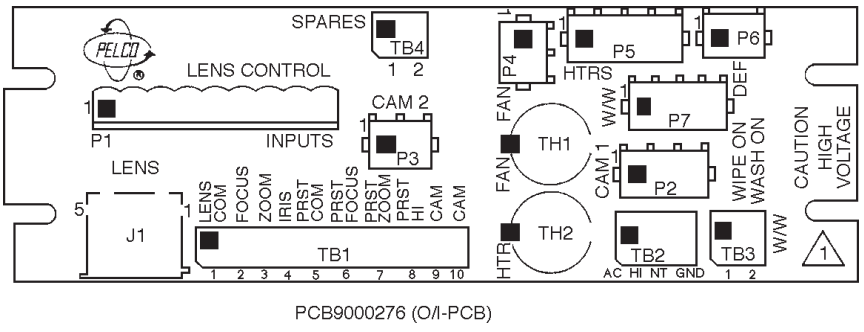

Figure 8. Component Locations for Optional Circuit Board (O/I-PCB)
- If your enclosure has the O/I-PCB circuit board, connect the wire to the LENS COM connector (refer to Figure 8).
If you are installing the wiper kit in a non-Legacy unit, power for the wiper is supplied as follows (refer to Figure 8 on page 11):